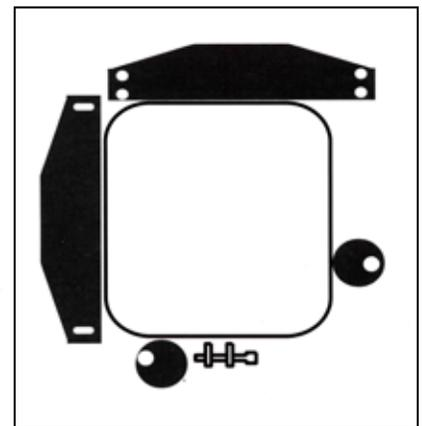

Fig. 1
Important: The two brackets with the cushion rings, called round eccentrics, must only be lightly touching the hoop when the hoop is snugly against the large flat brackets. This will keep the hoop in place and at the same time allow it to expand as the project is hooped. The brackets must not be forced tightly against the hoop as this situation will cause you to use unnecessary pressure on the hoops. Fig. 1
- Mount the large adjustable bracket (for most situations we recommend placing this bracket perpendicular to the first bracket as shown in Figure 1) in the same manner as the non-adjustable bracket, but do not completely tighten the screws yet.